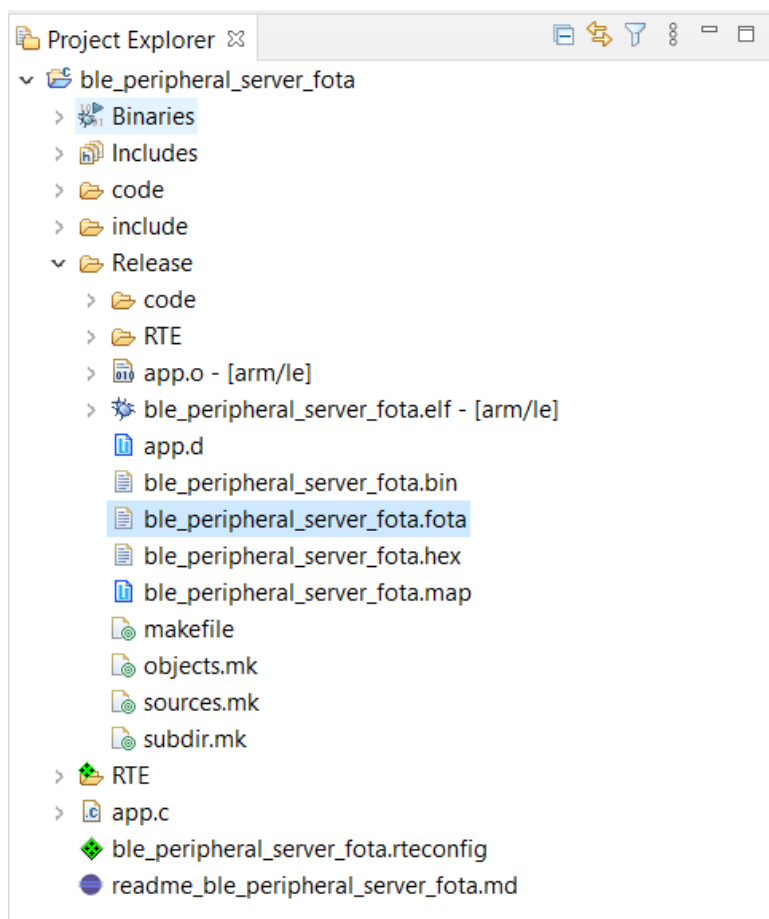

Figure 7. .fota Image in Release Folder
4. Build the *ble\_peripheral\_server\_fota* project. After a successful build, the *ble\_peripheral\_server\_fota.fota* image is generated under the *Release* folder, as seen in the "*.fota Image in Release Folder*" figure (Figure 7):